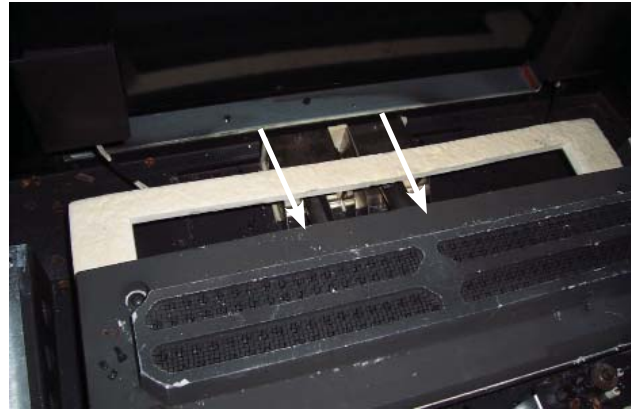

Figure 65: Move Burner away from Mixing Tubes
- 4) Carefully pull the burner forward (see Figure 65) away from the mixing tubes. When clear of the mixing tubes, lift the burner up and out.